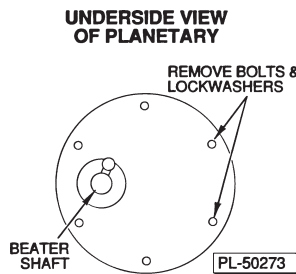

Fig. 7
Model V1401 (Figs. 7, 8)
2. Remove the two 1/2" Bolts and Lockwashers which are opposite the beater shaft (Fig. 7) on the underside of the Planetary. Discard the Bolts and Lockwashers.